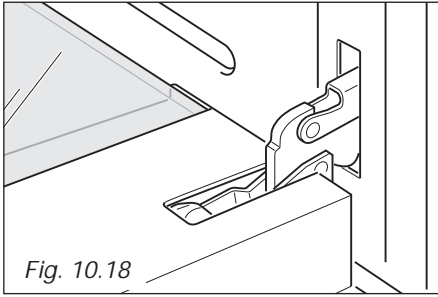

Fig. 10.18
- Open the door to the full extent (fig. 10.18).